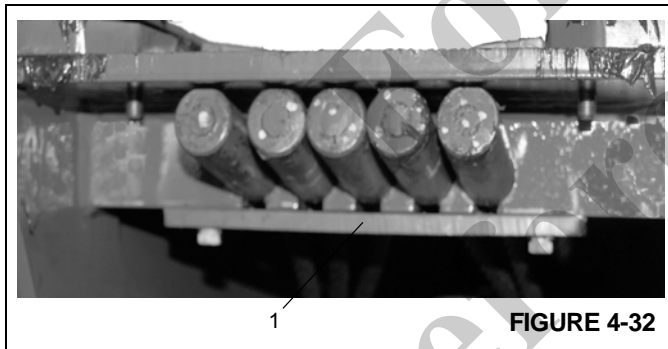

FIGURE 4-32
3. Remove the two bolts securing the extend cable keeper plate (Figure 4-32, 1) to the rear of the fly. Remove the keeper plate and remove the five extend cable ends from the slots in the fly.